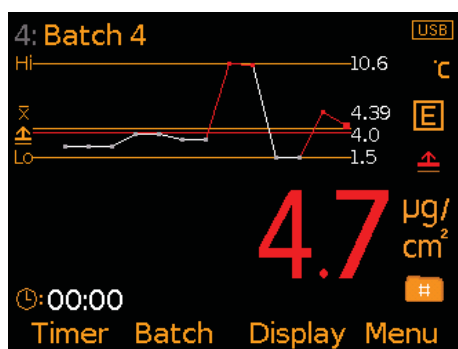

Fig. 3: Readings & Run Chart
- **Run Chart (Fig. 3);** A line trend graph of the last 20 measurements which is updated automatically after each reading.